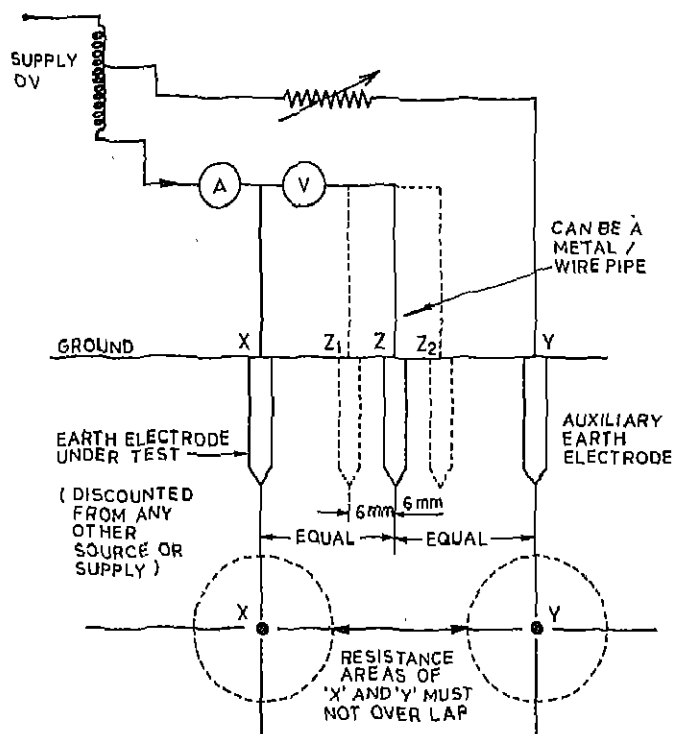

Fig. 20.1 Measurement of Earth Electrode Resistance
The earth electrode resistance measurement can be carried out by the ammeter-voltmeter method, in accordance with the circuit diagram given in Fig. 20.1. This method employs A.C. supply. But, it is not preferred due to the polarization effects.
- (ii) Make the electrical connections as shown in the circuit diagram. (Fig. 20.1)